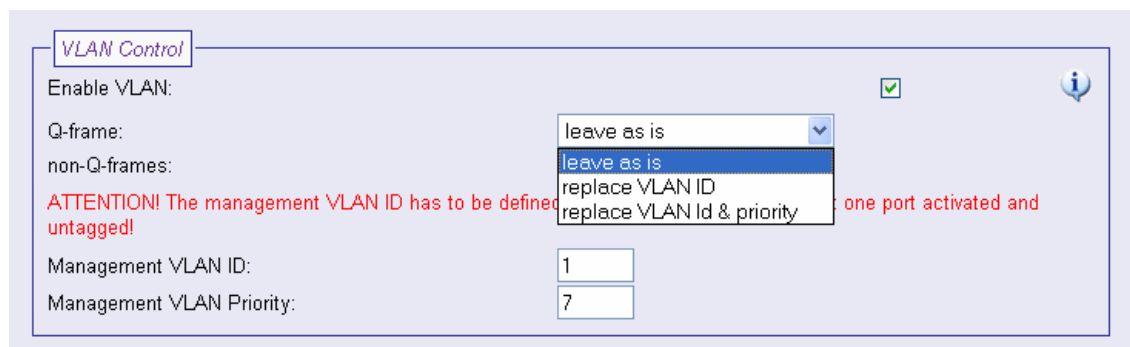

Figure 9. 1800 SW VLAN Control , Q-frame menu options
- *incoming Q-tagged frames* can be modified as follows (see figure 9):
This can be done with the 'Q-frame' selection box (see figure 9 below):